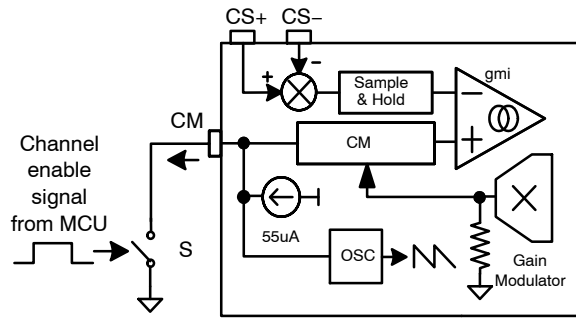
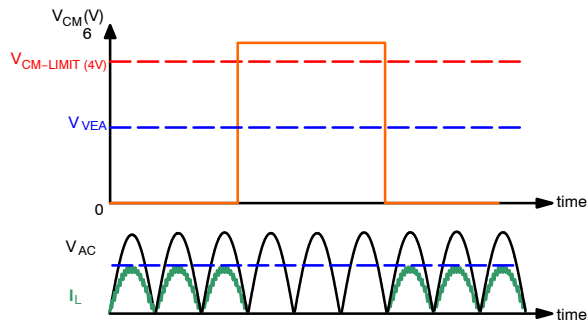

Figure 14. Channel Management by MCU
Figure 15. Channel Management by MCU
Channel Management (CM) function can also be accessed by an MCU through the connection shown in Figure 14. CM pins have internal pull-up current source. If $V_{CM} > 4$ V, the channel is disabled. To enable the channel, make $V_{CM} = 0$ V, as shown in Figure 15.